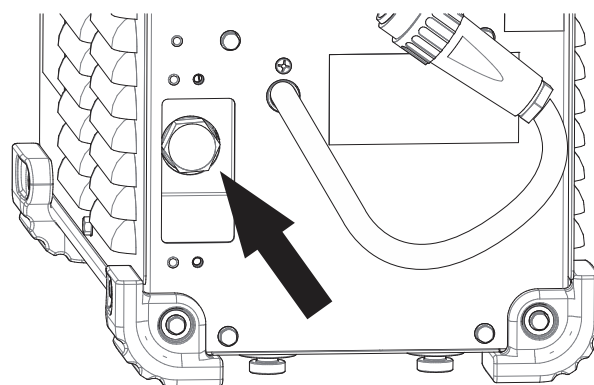

Figure 10
- Next remove the large brass bolt. See Figure 10. A deep well socket or tongue and groove pliers may be used. A small amount of coolant may leak.